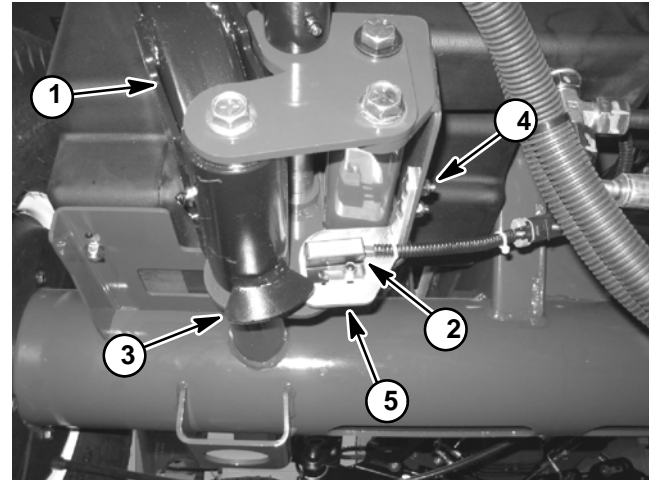

Figure 37
The up limit switch is a normally open proximity switch that closes when the cutting units are in the lowered position. A bracket on the front, right lift arm acts as the sensing plate for the up limit switch (Fig. 37). The switch on machines with a serial number below 310000000 is different than the switch on machines with serial numbers above 310000000 but the switch function is the same.
2. On machines with serial numbers below 310000000 (Fig. 37), test up limit switch as follows: